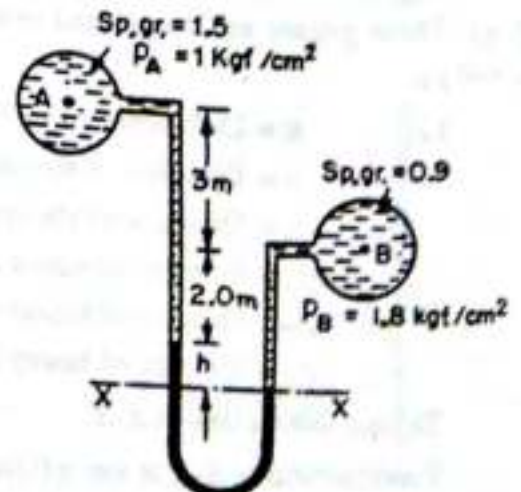

Fig. 2.19
**Problem 2.16.** A differential manometer is connected at the two points  $A$  and  $B$  of two pipes as shown in Fig. 2.19. The pipe  $A$  contains a liquid of sp. gr. = 1.5 while pipe  $B$  contains a liquid of sp. gr. = 0.9. The pressures at  $A$  and  $B$  are  $1 \text{ kgf/cm}^2$  and  $1.80 \text{ kgf/cm}^2$  respectively. Find the difference in mercury level in the differential manometer.